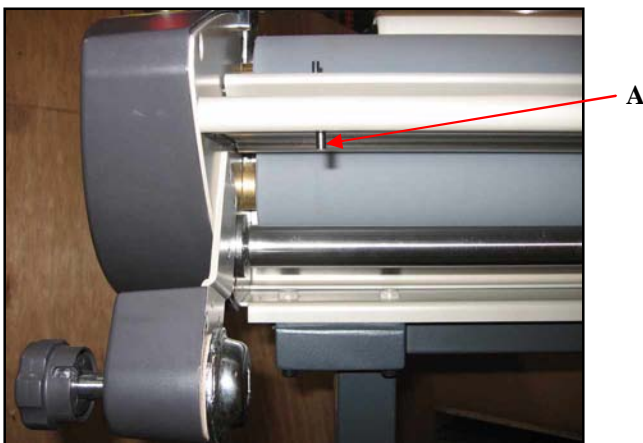

Fig. 6-5. Table Interlock Latch
The feed table should not be removed except to install films. When the table is off, the laminator runs at a fixed speed of 3 fpm (0.9 m). Refer to Fig. 6-5 for the following instructions.
A. Table Interlock Latch (Figure 6-5)